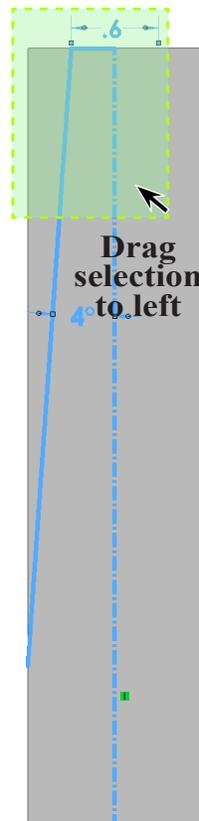

Fig. 12
Step 10. **Drag a "trend to left - more liberal" selection across centerline and lines, Fig. 12.**